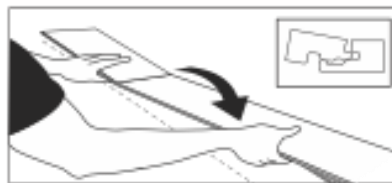

Fig. 3 Installing the second plank.
- Install the second plank in the row by pushing and snapping the end tongue into the end groove of the first plank (Fig. 3). Install second and subsequent full pieces in the first row by aligning short ends of the planks and locking into place.